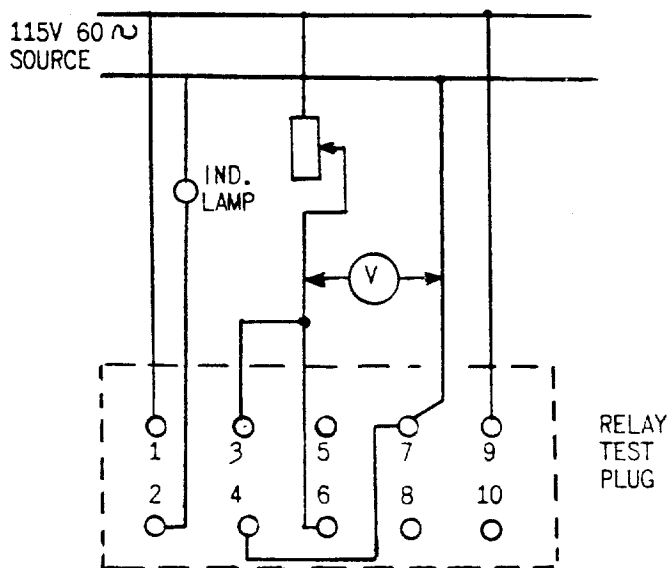

Fig. 8B (0165A7737-0) Test Connections for Relay Type IJS52E
4. With a 115 volt, 60 cycle source and connection shown in Fig. 8B, check that the telephone-type units pickup between 35 and 52 volts and that these units drop out between 17 and 35 volts.
3. Using connections in Fig. 8B check the pick up and drop out of the telephone-type undervoltage units (27V and 27L).